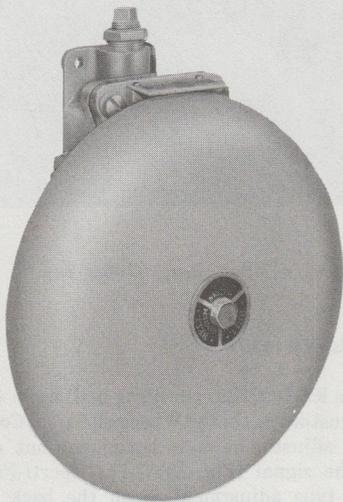

Fig. 16—KS-8547, List 1 Bell
3.14 *Signals, KS-8547 (Fig. 16):*